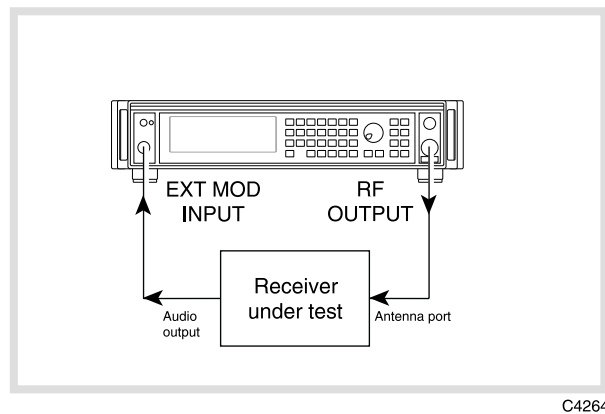

Fig. 4-35 SINAD measurement interconnections
- (1) First of all interconnect the receiver under test and the instrument as shown in Fig. 4-35 below.